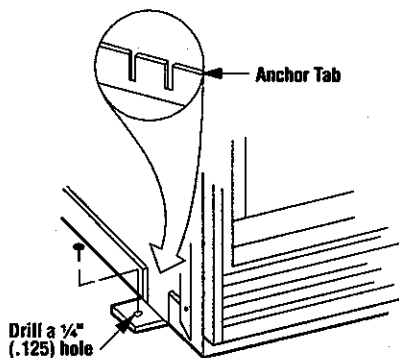

Figure 2
To prevent any movement during operation, heaters installed in a surround must be attached to the floor or to a solid wood platform (hearth). For the GASVF Series heaters, this platform must be a minimum of 15 1/2" deep and 36" wide (refer to Figure 26). After positioning the heater, bend the mounting tabs down (Figure 2). Drill a 1/4" (.125) hole in each tab. Using two (2) screws securely tighten the heater to floor or platform.
Step 7. Secure Heater – Bend the tabs down (Figures 2 and 16). Drill a 1/4" (.125) hole in each tab. Using two (2) screws securely tighten the appliance to the platform.